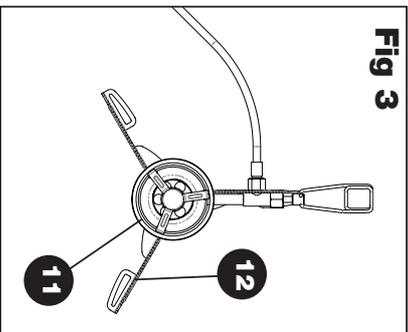

Fig 3
6. ASSEMBLING AND OPERATING THE APPLIANCE WITH LIQUID FUEL (Figs. 3 and 4)
Spin the valve until it meets the control valve (22). Fully open the valve until it is completely closed. Closing (as shown in Fig. 3). Be careful not to cross-thread the connection. **Hand-tighten only - over-tightening will damage the connection.**
- 6.4. Swing the legs (lean supports) (12) into position in the wind shield (11).